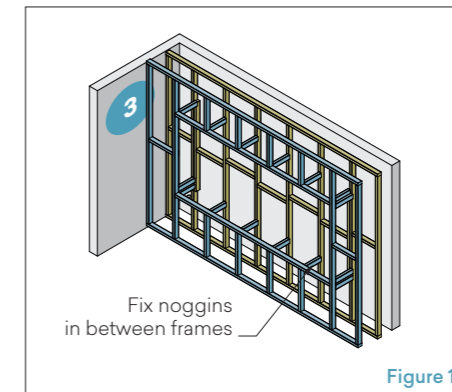

Figure 12
3. Fix noggins in between frames so that plasterboard or engineered timber board can be fixed. (Figure 12)